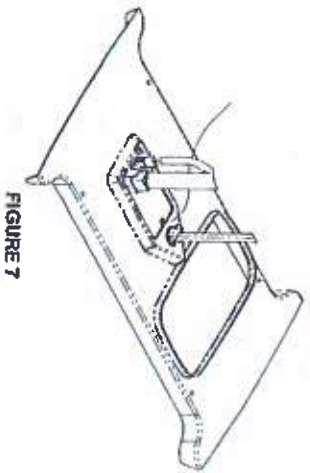

FIGURE 7
C. Raise the ceiling assembly chute and insert the supply wiring through the cable clamp and into the wiring box so that 4-6" of supply conductor is inside the box. Secure the cable clamp over the supply wire sheath so that no movement is possible (See Figure 7).
F. Plug the heat pump electrical conduit into the 9 position receptacle as shown in Figure 7.
G. If the optional heater accessory package is being installed, remove the cover from the 2 position receptacle and plug the heater cord into receptacle as shown in Figure 7.